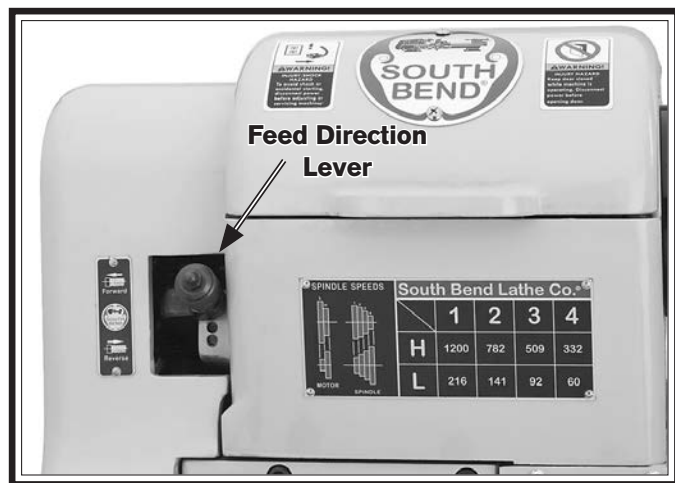

Figure 52. Location of the feed direction lever.
3. Pull the locking pin out on the feed direction lever, align it with the hole for the desired feed direction per the label to the left, then release the pin so that it is fully seated into the hole (see **Figure 52**).